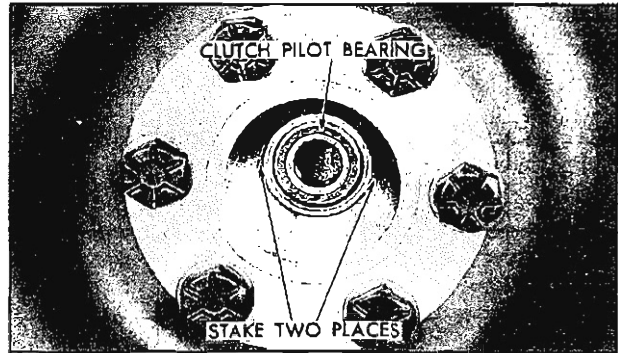

Fig. 6D-4 Clutch Pilot Bearing Staked
3. If clutch pilot bearing is to be replaced, use cold chisel to remove staking in end of crankshaft which keeps bearing in place when transmission is removed (Fig. 6D-4). Remove clutch pilot bearing from hole in crankshaft.
If bearing is a snug fit in crankshaft, use puller J-4383 and slide hammer J-2619-A or J-942 to remove bearing. When installing new bearing see that hole in crankshaft is thoroughly clean. Install new bearing with shielded side toward transmission. Start bearing into hole and tap into place by using clutch pilot bearing installer J-5736 against outer race. Stake slightly as shown in Fig. 6D-4 to keep bearing in place in case transmission is removed in the future.